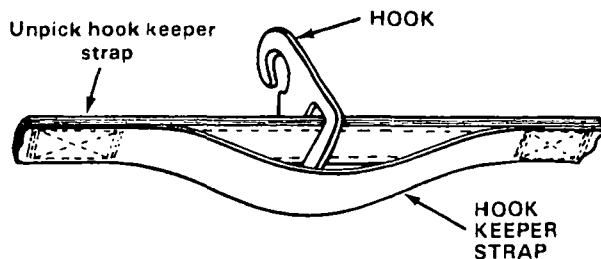

Figure F-3. Free Damaged Hook
Step 2 - Free the damaged hook by unpicking the stitching on one side of the hook keeper strap (Figure F-3).